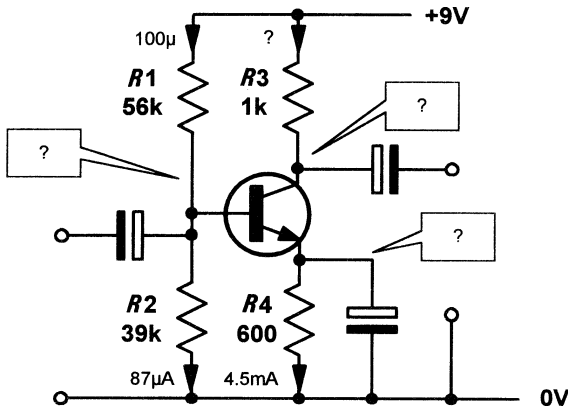

Figure 7.44
- 7.7 Determine the unknown current and voltages in Fig. 7.44.